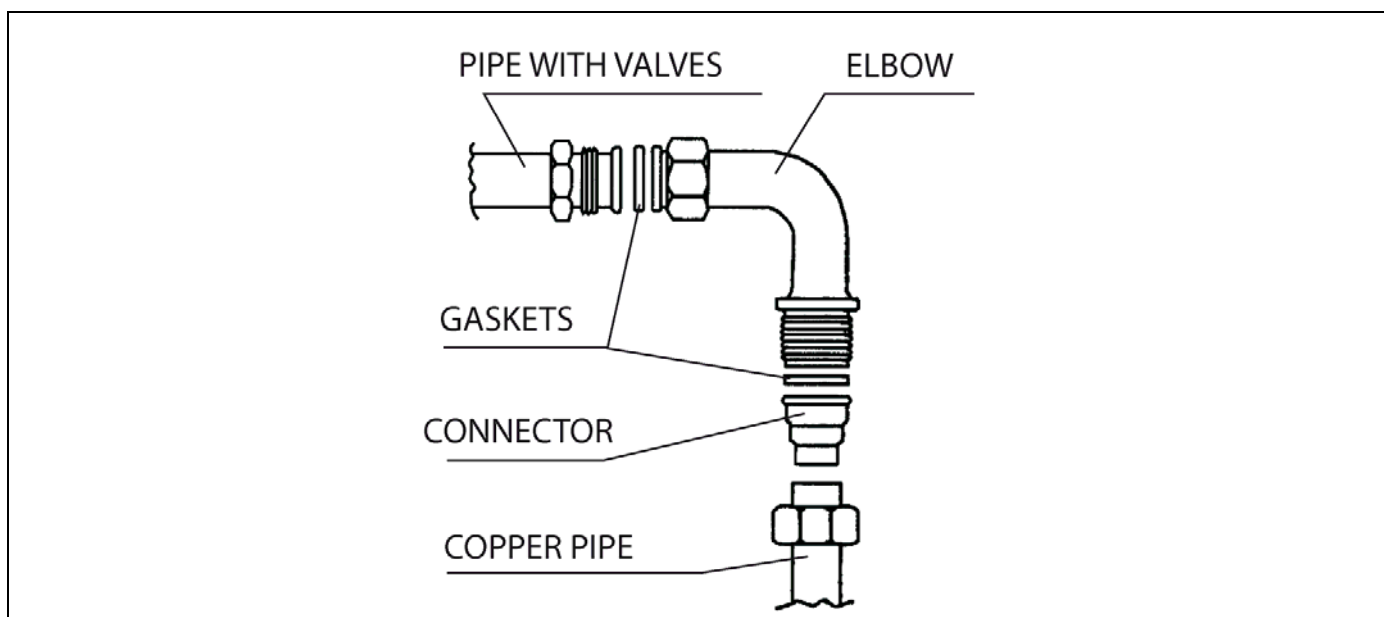

Fig.8
- To connect the appliance use the LPG tip with a gasket as shown in fig. 8.